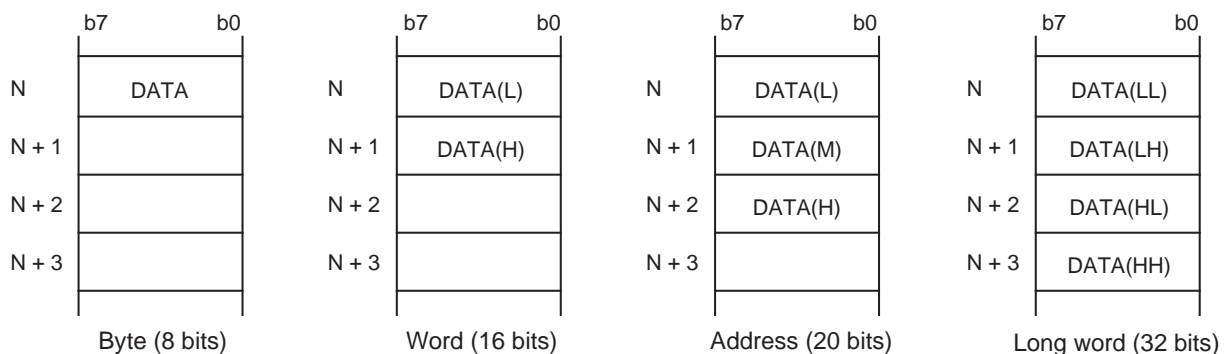

Figure 2.4.2 Data arrangement in memory
Figure 2.4.2 shows the data arrangement in the M16C/60, M16C/20 series memory. Data is arranged in memory in units of 8 bits as shown below. A word (16 bits) is divided between the lower byte and the upper byte, with the lower byte, DATA(L), placed in a smaller address location. Similarly, addresses (20 bits) and long words (32 bits) are located in memory beginning with the lower byte, DATA(L) or DATA(LL).